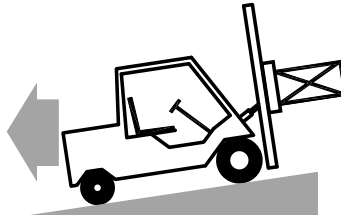

Figure 3-4,
- Always back down ramps or inclines. Driving forward down a ramp or incline with a clamped load will lessen the stability of the truck. (Figure 3-4)